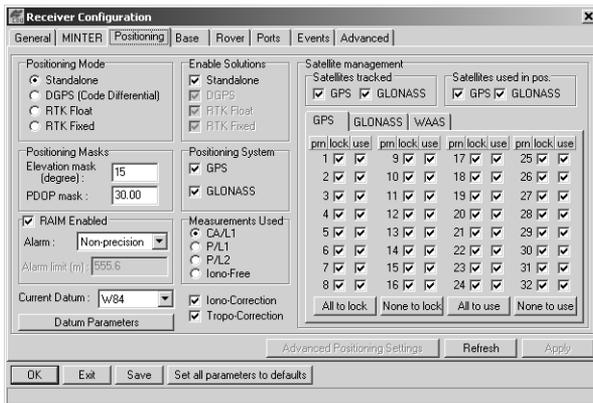

Figure 3-13. Receiver Configuration – Positioning
10. Select the **Positioning** tab and set the Position Masks, Elevation mask parameter to 15 (Figure 3-13).
4. Select the **Positioning** tab and set the Position Masks, Elevation mask (degrees) parameter to 15 (Figure 3-13 on page 3-19).